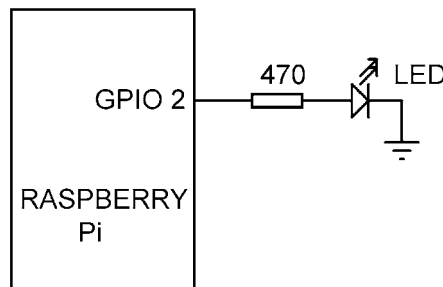
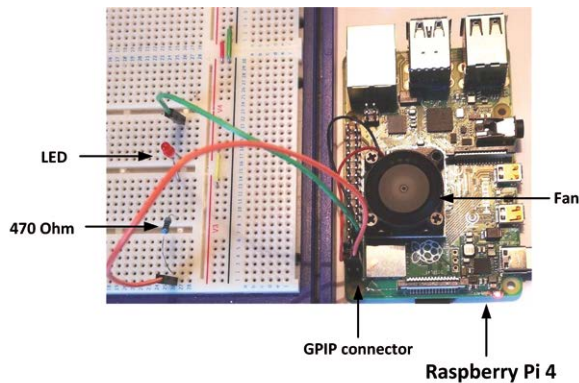

Figure 5.4 LED connected to pin GPIO 2
Figure 5.9 Circuit constructed on a breadboard
Circuit diagram: Figure 5.4 shows the circuit diagram of the project where the anode of the LED is connected to pin GPIO 2 of the Raspberry Pi through a current limiting resistor.
- Connect the LED to Raspberry Pi as shown in Figure 5.4. The circuit was built on a breadboard and connected to Raspberry Pi GPIO connector using jumper wires as shown in Figure 5.9.
Circuit diagram: The LED is connected to Raspberry Pi as in Figure 5.4.